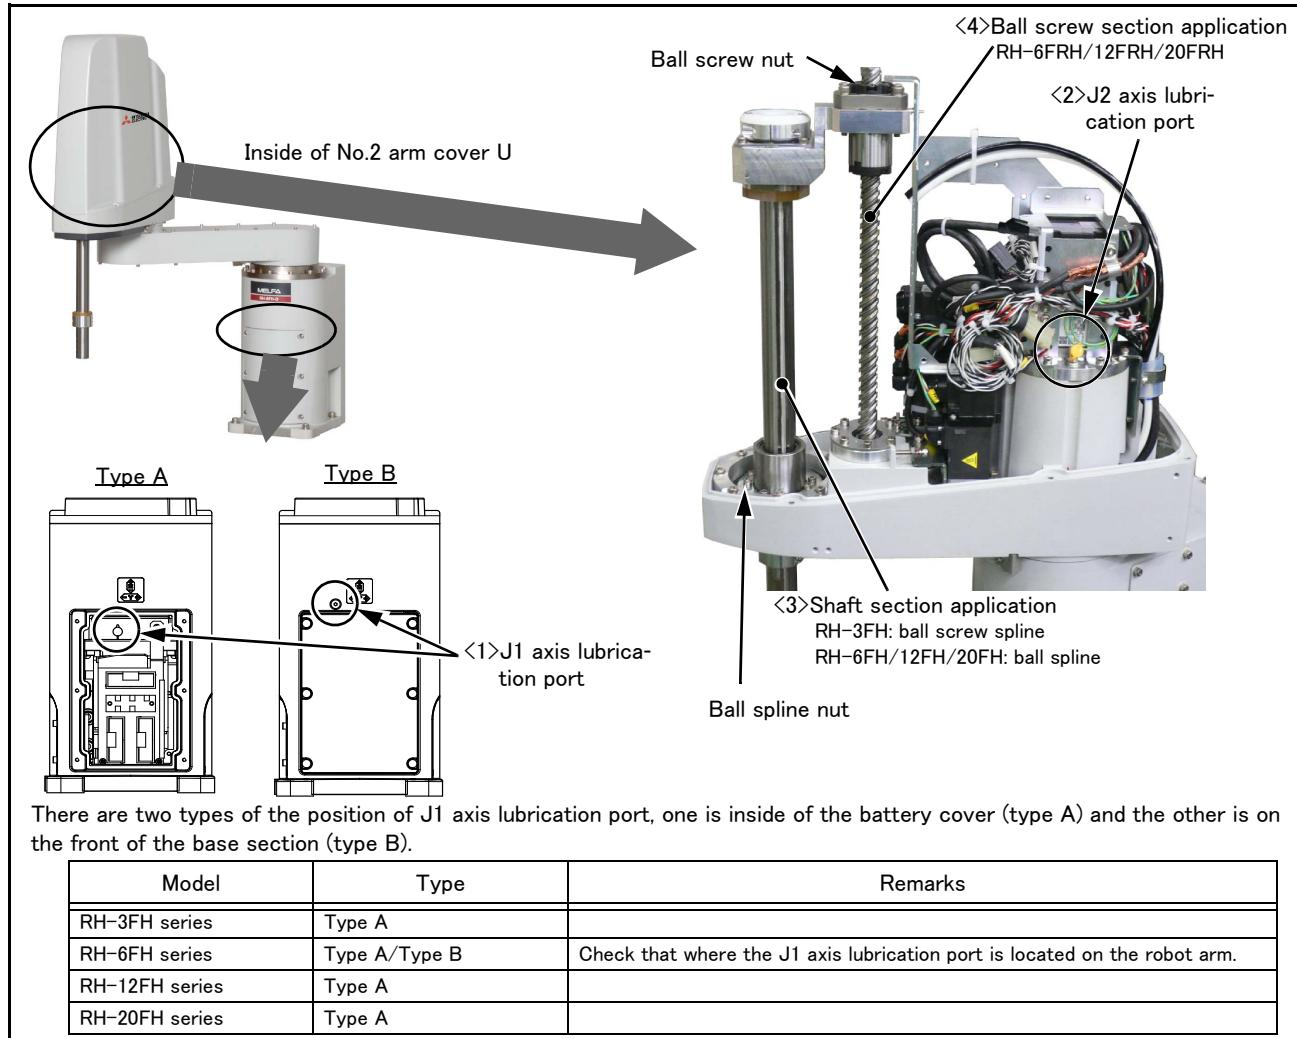

Fig.5-17 : Lubrication positions
The grease nipple position is shown in Fig. 5-17. The lubrication specifications for each place are shown in Table 5-5. Refer to the Page 79, "5.3.2 Installing/removing the cover" for the method of removing and installing the cover.
- The numbers in the Table 5-5 correspond to the supply positions in Fig. 5-17.